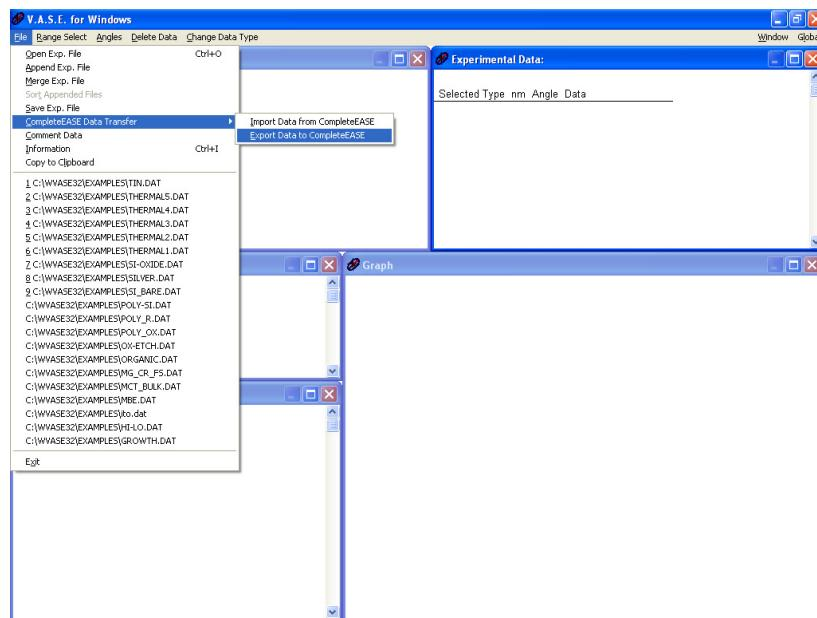

Figure 11-5. Selecting “Export Data to CompleteEASE”
1. From the Experimental Data window in WVASE32, select the file menu and choose “CompleteEASE Data Transfer”. Then, select the “Export Data to CompleteEASE” option as show in Figure 11-5.